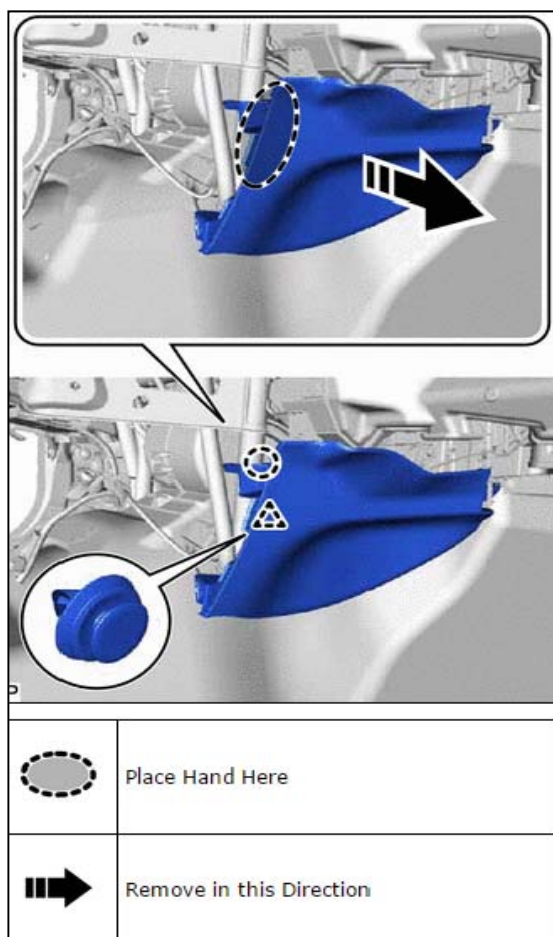

Figure 22
- a. Disengage the clip and claw as shown. See Figure 22.